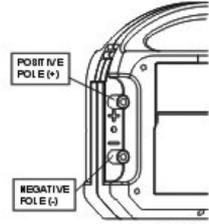

Fig.23
- The jumper cable terminals are located at the back of the PowerTank. (Fig. 23)